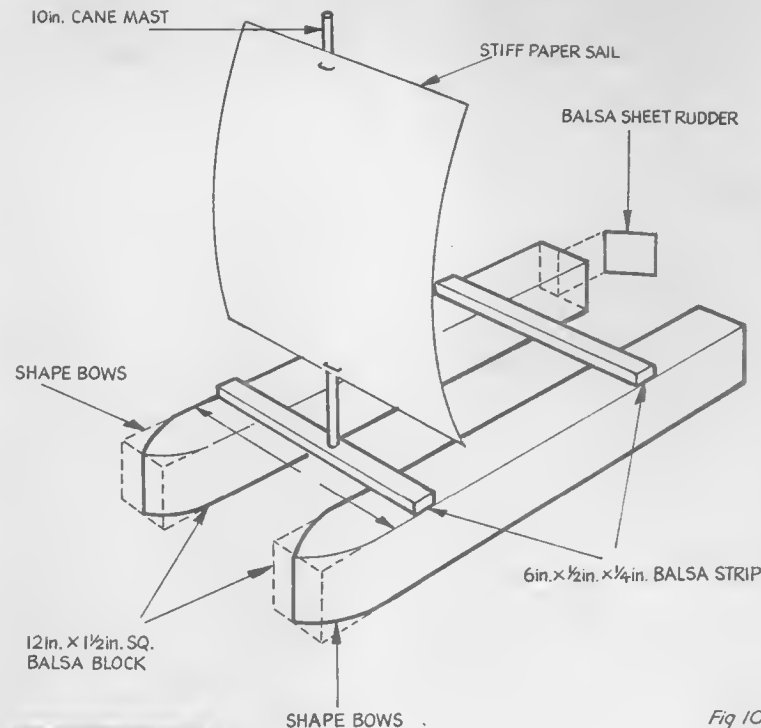

Fig 10
*Fig. 10* shows how to make a simple model catamaran, shaping the two hulls from 1½ in. square balsa. Fit the same size mast and sail as the Kon Tiki raft. It will be faster and sail more broadside to the wind, if the sail is fastened at an angle. If the weather is breezy you will also discover that although the